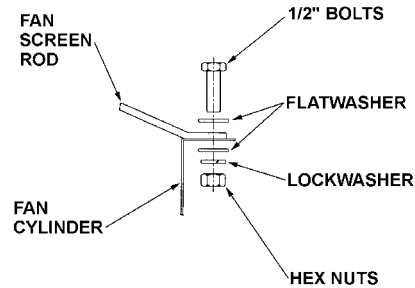

Figure 16 - Attachment of Fan Screen to Discharge Cylinder.
2. At each hole, attach the fan screen to the discharge cylinder as shown in Figure 16.
4. At each hole, attach the fan screen to the discharge cylinder as shown in Figure 16. At the four points where the support frame meets the cylinder, bolt the support frame to the cylinder together with the fan screen.